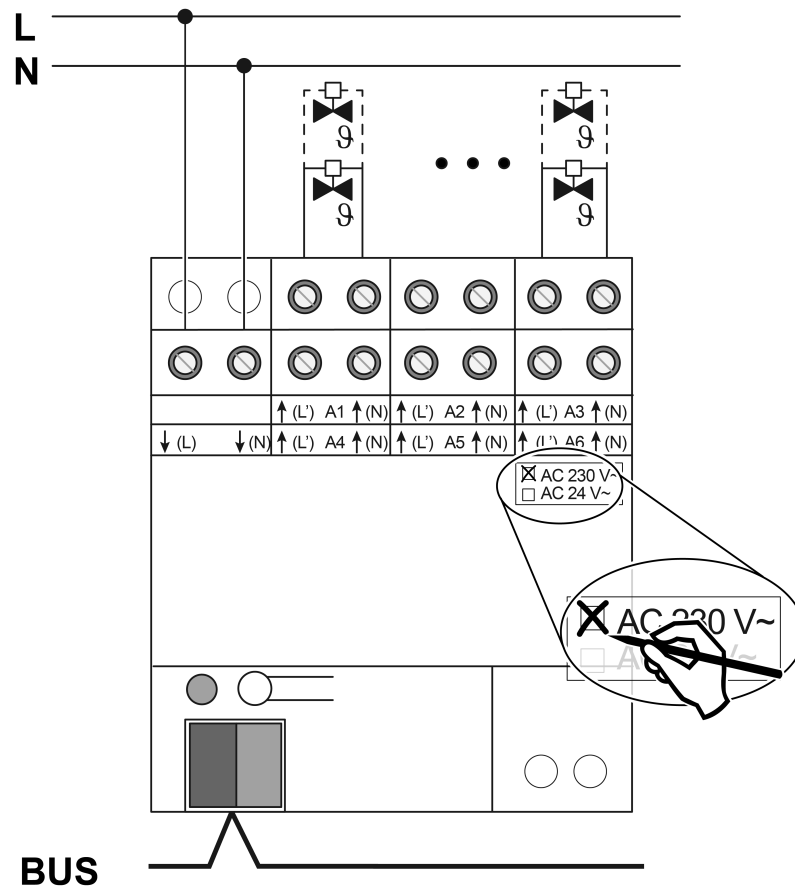

Figure 2: Connection of actuators 230 V
- Connect the AC 230 V valve drives according to the connection diagram (see figure 2).